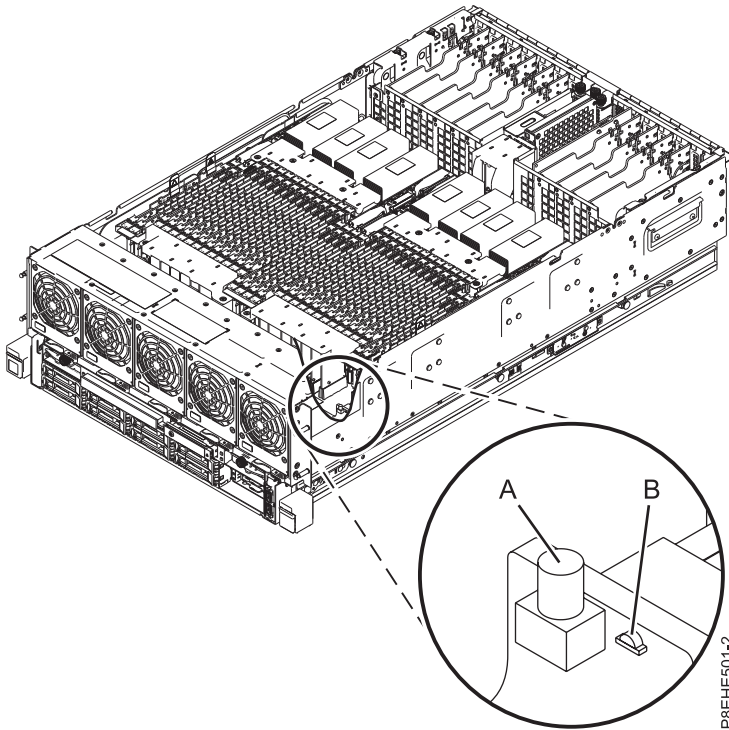

Figure 3. Activating the identify LED
2. Press the push-button **(A)** as shown in Figure 3 on page 6 to activate the identify LED. Verify the LED **(B)** is lit, which indicates there is sufficient power to the identify LED. If the LED **(B)** is not lit, use the location code to find the physical location by using the service label.